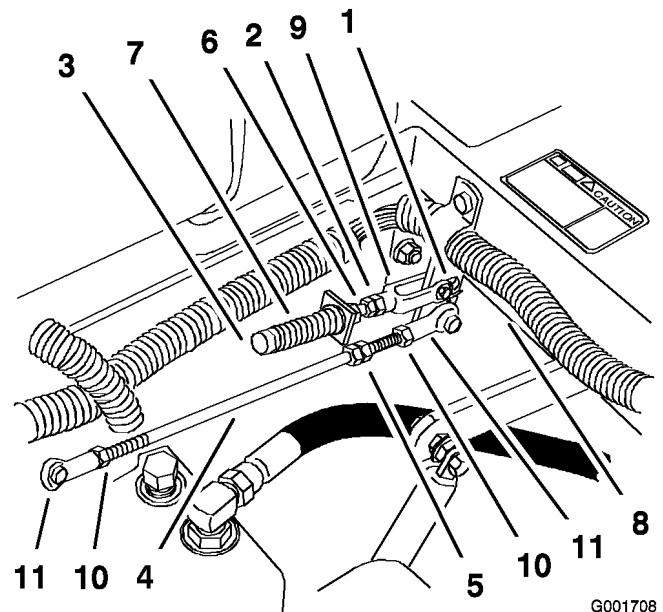

Figure 62
1. Loosen the locknuts at the ball joints on the pump control rod (Figure 62).
3. Adjust the pump rod length by rotating double nuts on rod, in the appropriate direction, until wheel is still or slightly creeps in reverse (Figure 62).
6. Tighten the locknuts at the ball joints (Figure 62).